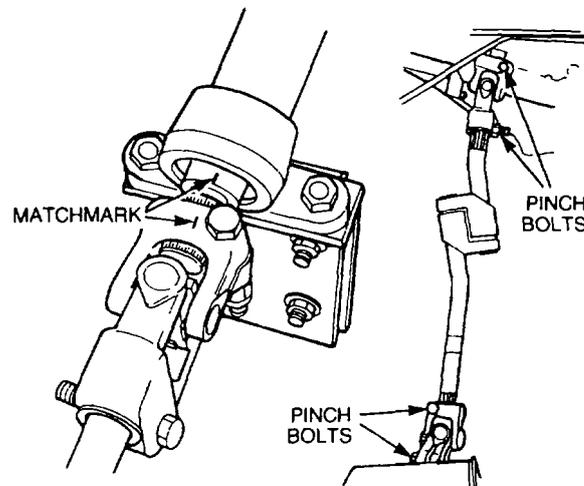

Figure 82 Steering Column Alignment
- b. Ensure the front wheels and the steering wheel are in the straight ahead position and match mark the relationship of the steering column inner shaft to the top universal joint (Figure 82).
- b. Ensure the front wheels and steering wheel are in the straight ahead position. Matchmark the relationship of the steering column inner shaft to the top universal joint (Figure 82).